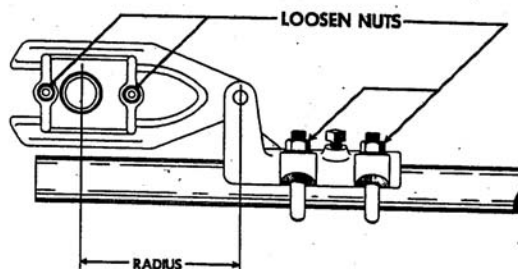

Figure 17
- c. Loosen the adjustable arm and clevis bolts as shown in figure 17.